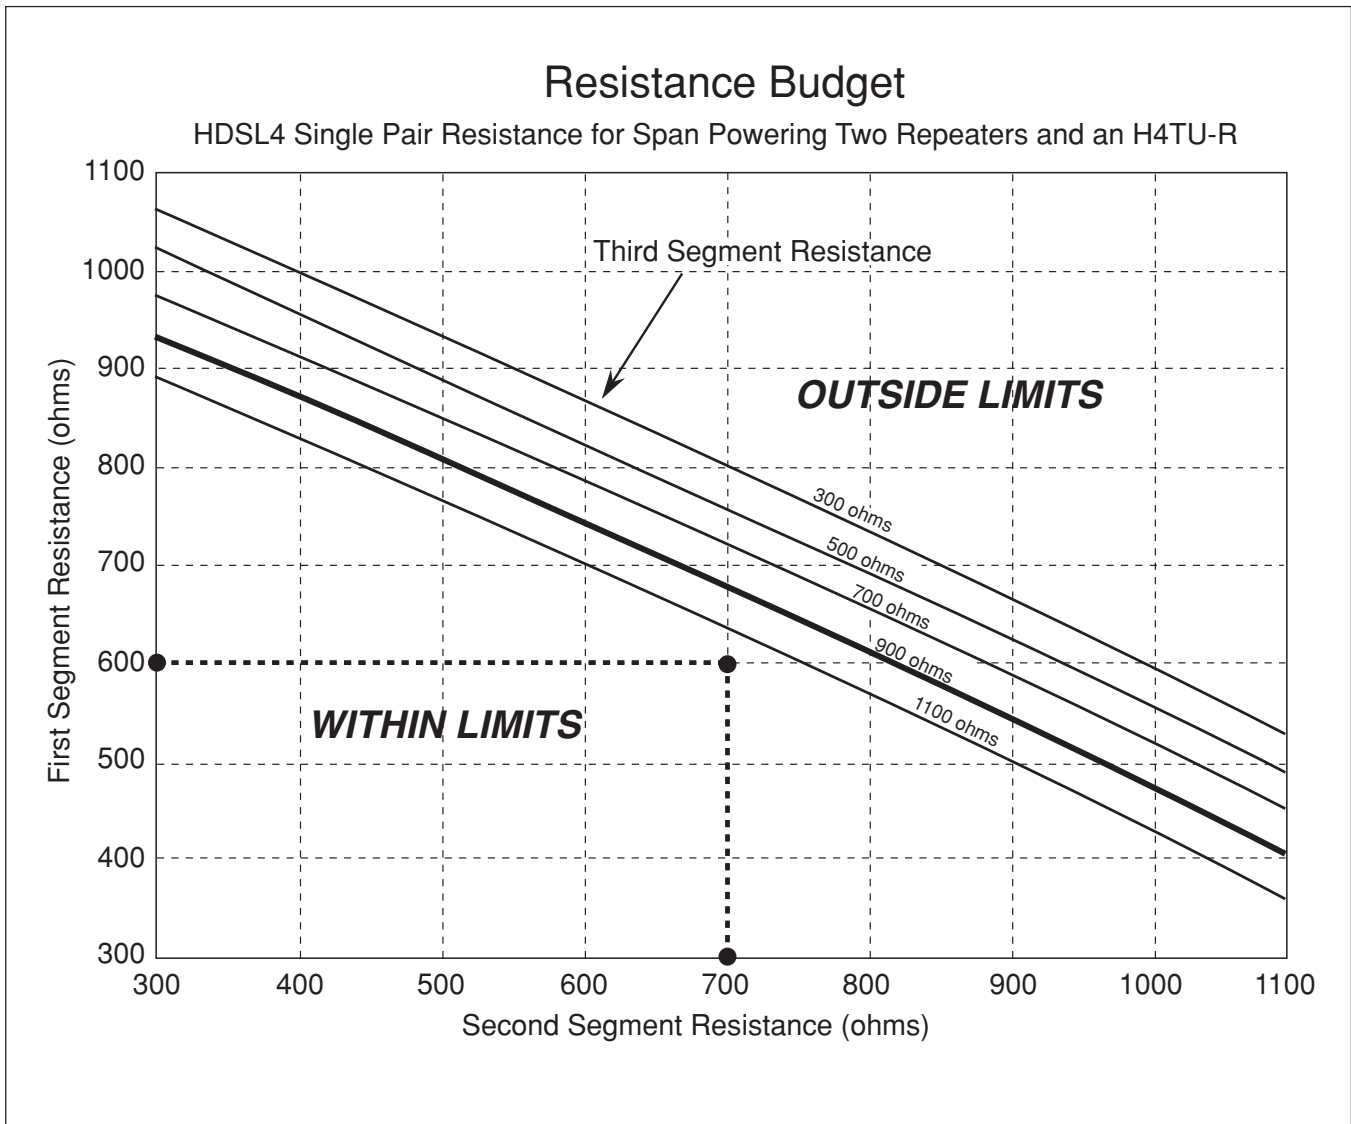

Figure 24. Resistance Budget Span Powering Two Repeaters (Example)
An example problem is illustrated in **Figure 24**. For this example, begin with three known measurements: 600 ohm first segment resistance, 700 ohm second segment resistance, and 900 ohm third segment resistance. Refer to Figure 24 and the following steps to solve the example problem:
1. Find the 900 ohm third segment resistance line on the graph. This line is depicted in bold in Figure 24. This line is the upper span power limit.